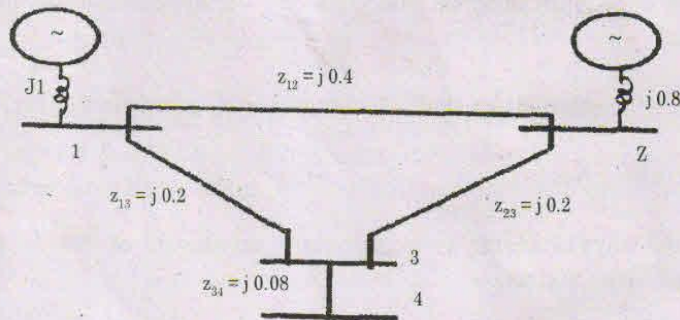

Fig.11(b)
- (b) From the impedance diagram shown in Fig.11(b). Compute the bus admittance matrix and draw the admittance diagram. (13)